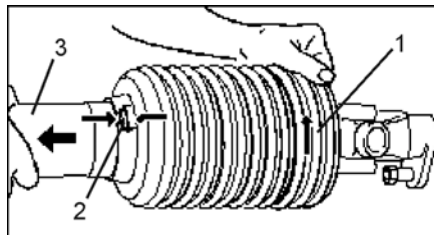

Fig. 9
- Twist the funnel (Fig. 9/1) in fitting position (Fig. 9/2).
- Pull off guard cone (Fig. 9/3).